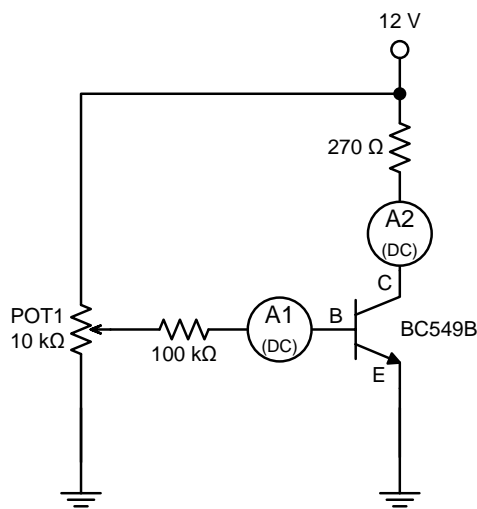

Figure 1.
1.1 From Figure 1, by assuming $V_{BE(ON)} = 0.7\text{ V}$ and $V_{CE(SAT)} = 0.2\text{ V}$, calculate the maximum i_b and i_c .
1.2 Set the proper measuring ranges (DC current mode) of two multimeters to measure these currents. Build the circuit as shown in Figure 1 on the breadboard.